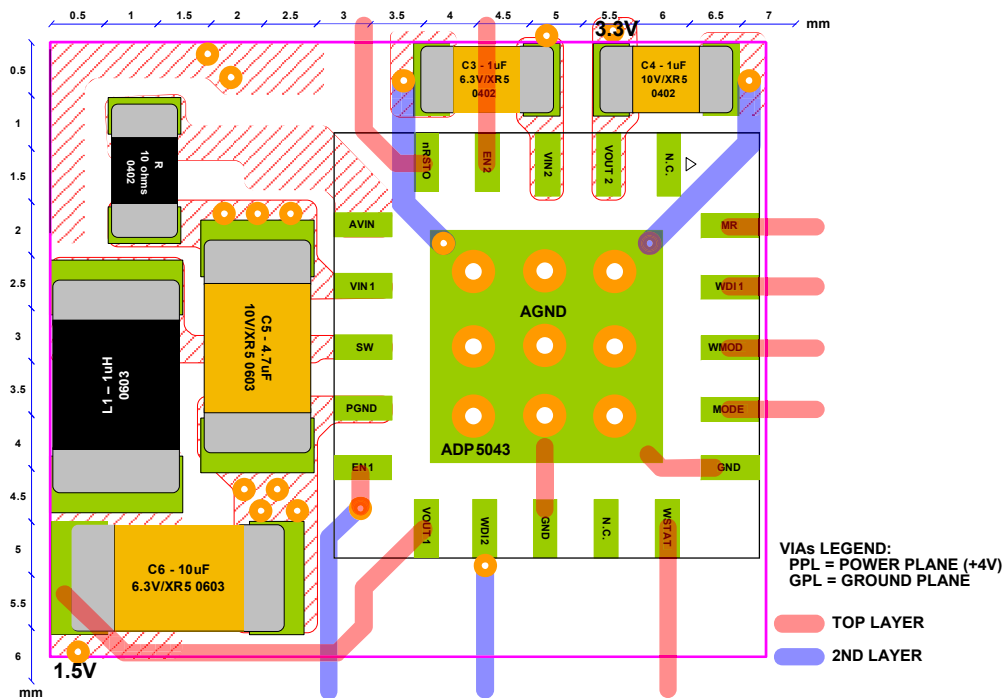

Figure 55. Layout
The typical  $\theta_{JA}$  value for the 20-lead, 4 mm × 4 mm LFCSP is 38°C/W, see Table 7. A very important factor to consider is that  $\theta_{JA}$  is based on a four-layer 4" × 3", 2.5 oz copper, as per Jeduc standard, and real applications may use different sizes and layers. It is important to maximize the copper used to remove the heat from the device, and copper exposed to air dissipates heat better than copper used in the inner layers. The thermal pad (TP) should be connected to the ground plane with several vias as shown in Figure 55.